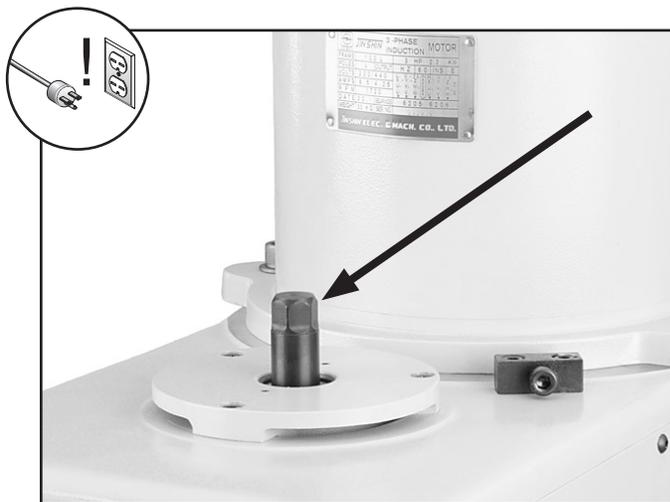

Figure 41. Drawbar inserted into the head.
5. Holding the tool in place, insert the drawbar into the top of the head, as shown in **Figure 41**, then thread it into the tool.